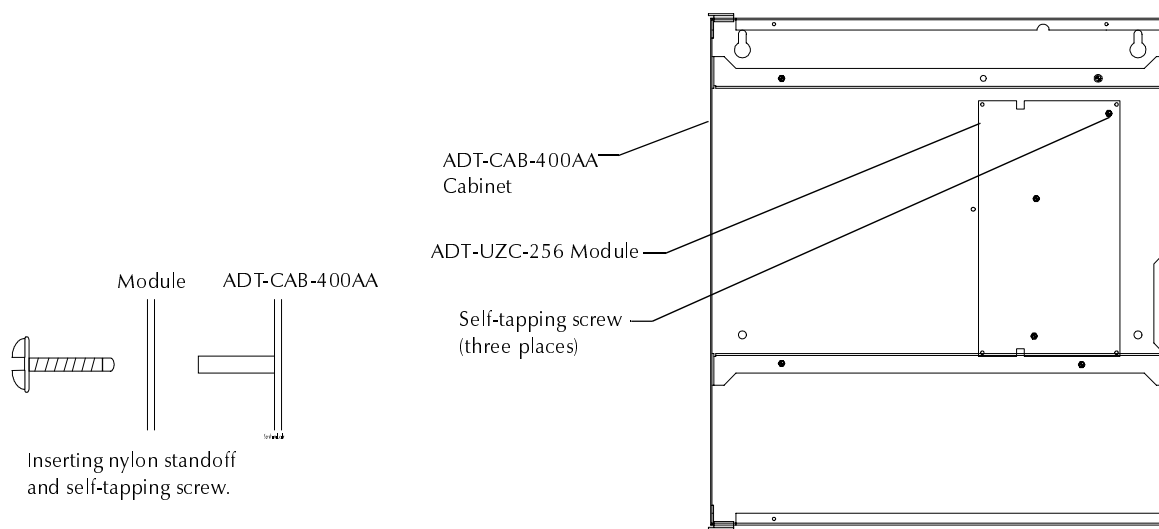

Figure 2-28 Mounting the ADT-UZC-256 into an ADT-CAB-400AA Cabinet
1. Place the module into the ADT-CAB-400AA as shown in Figure 2-28.